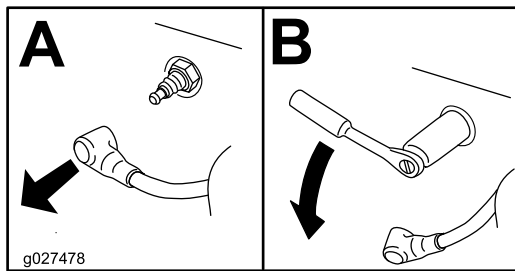

Figure 34
3. Remove the spark plug (Figure 34).